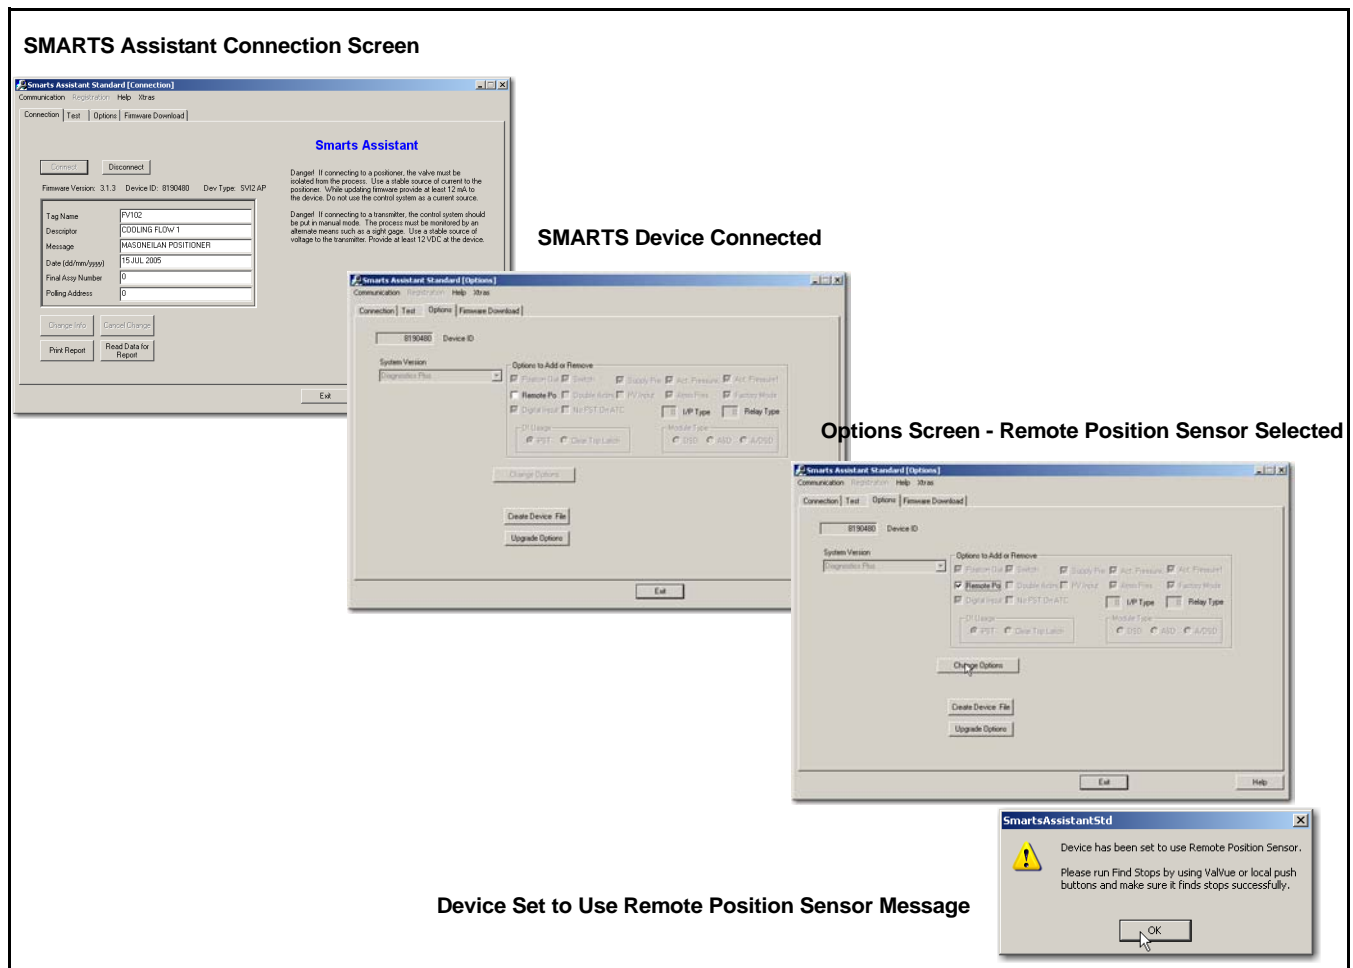

Figure 20 SMARTS Assistant - Commissioning the Remote Position Sensor
2. Click on **Connection** (Figure 20).
SMARTS Assistant searches for the SVI II AP to which the Remote Position Sensor is connected, connects the device to the software and device information appears (Figure 20).
3. Select the **Options** tab and the screen appears (Figure 20).